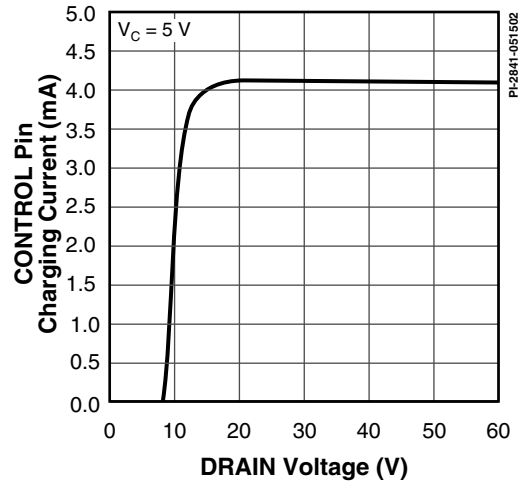

Figure 45.  $I_C$  vs. DRAIN Voltage.
- D. It is possible to start up and operate *DPA-Switch* at DRAIN voltages well below 16 V. However, the CONTROL pin charging current is reduced, which affects start-up time, auto-restart frequency, and auto-restart duty cycle. Refer to Figure 45, the characteristic graph on CONTROL pin charge current (IC) vs. DRAIN voltage for low voltage operation characteristics.